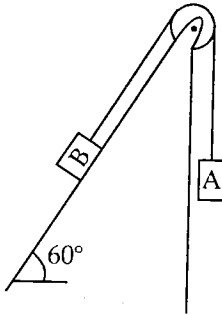

Fig. 10
7. (a) Find the accelerations of block A and B 7+7 shown in the fig. 10. if system is released from rest. The contact surfaces are smooth and pulley is frictionless. Take mass of blocks A and B 10 kg and 15 kg respectively.